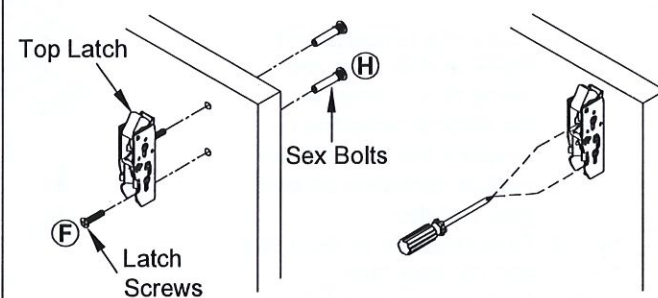

Figure 1
1. Install top latch with two(2) screws (sex bolts). Adjust strike so that device latches without binding. **See Figure 1**
2. Check top latch for HOLDBACK (Latchbolt stays retracted in latch case). See Figure 1
10. Make sure top latchbolt stays retracted as shown. See Figure 1